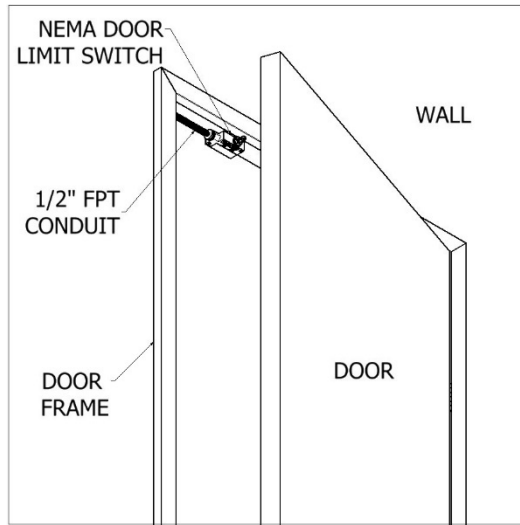

FIG. 1
1. Mars door limit and magnetic reed switches are available with NEMA 1, 4X and 7 ratings. Contact the factory for additional ratings and details. (See FIG. 1 for typical single swing, hinged door type, door limit switch installation)